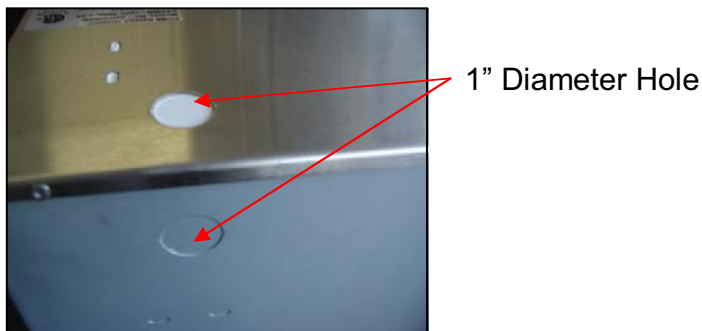

Figure 12
3. If necessary, arrange the electrical wires to run through the 1" diameter hole on the top or the rear of the hood. Refer to Figure 12.